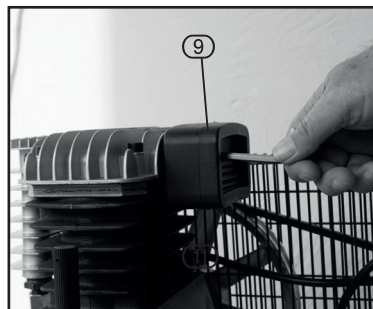

FIG.9
11.3 MONTHLY OPERATIONS (OR MORE FREQUENTLY IF THE COMPRESSOR OPERATES IN VERY DUSTY AREAS) - FIG.9